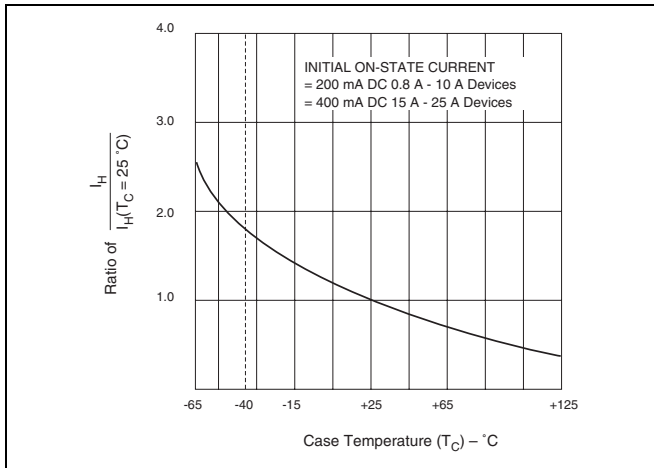

Figure E2.14 Normalized DC Holding Current versus Case Temperature
- See Figure E2.14 for  $I_H$  versus  $T_C$ .